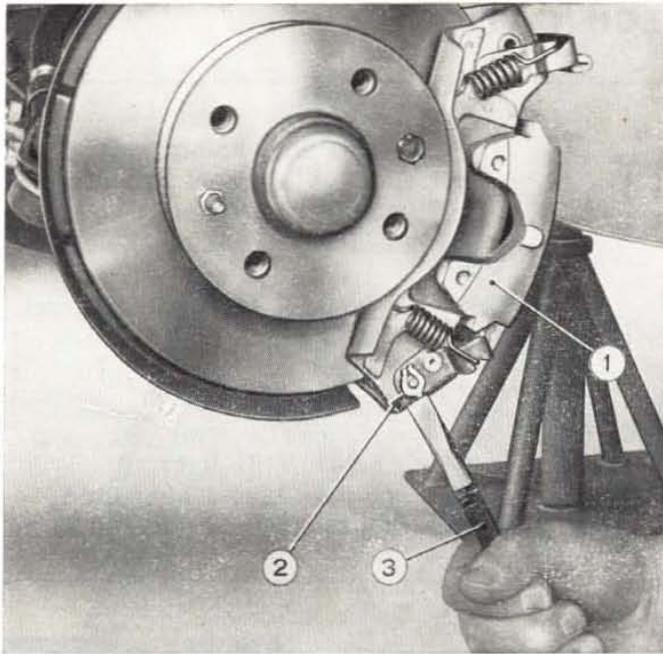

Fig. 449 - Removing bracket clamp pin lock plate.
- remove caliper bracket clamp pin clips (fig. 449) and withdraw clamp pins;